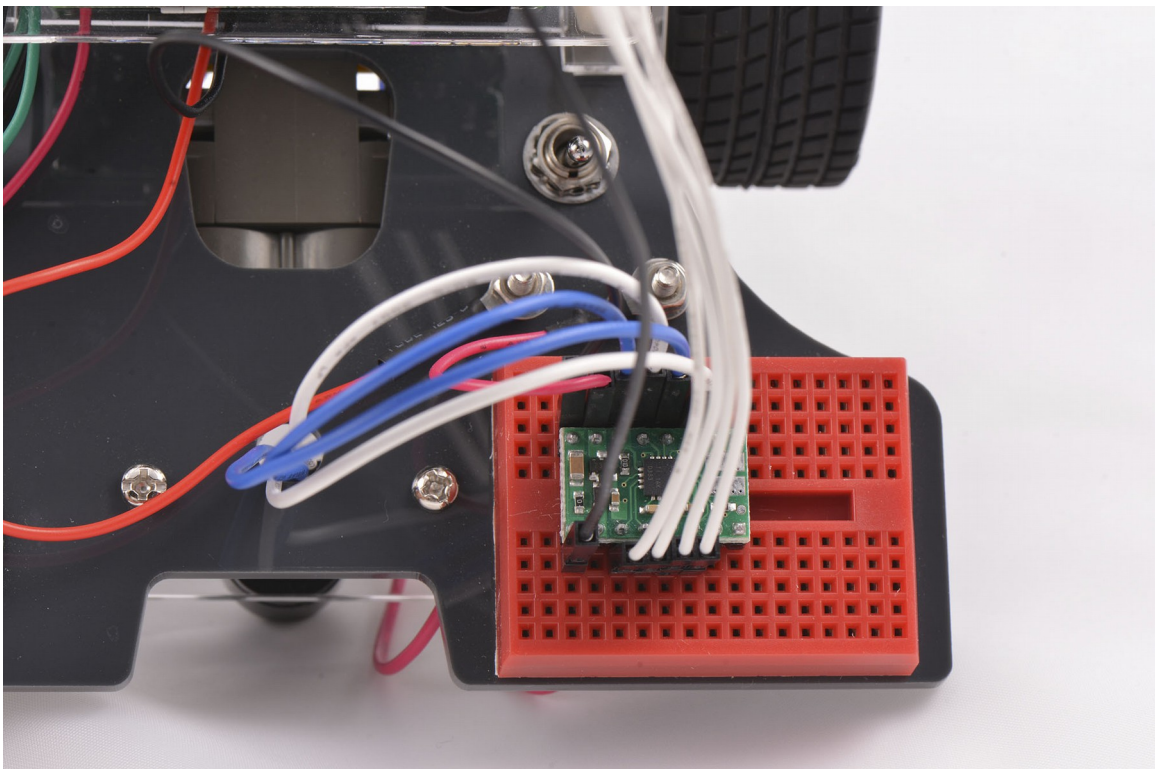

Figure 2.35
Connect the motor controller to the STEM Board microcontroller using four (4) male-male wires, as shown in figures 2.35 and 2.36.